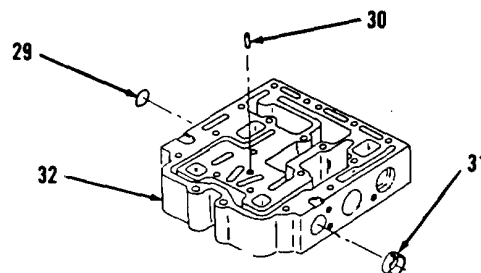

Figure 14-108
17. Remove preformed packing (29), dowel (30) and stop (31) from body (32, Figure 14-108). Discard preformed packing (29).